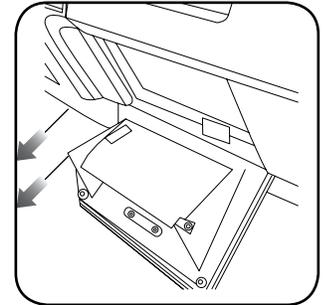

Fig. 1.4
4. Unclip the glove box (Fig. 1.4)